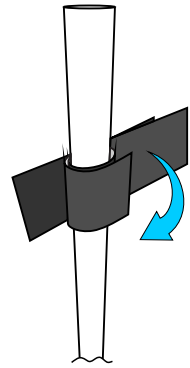

Fig 3.2C
3. Bring the opposite velcro tab around the rail (see Fig 3.2C).